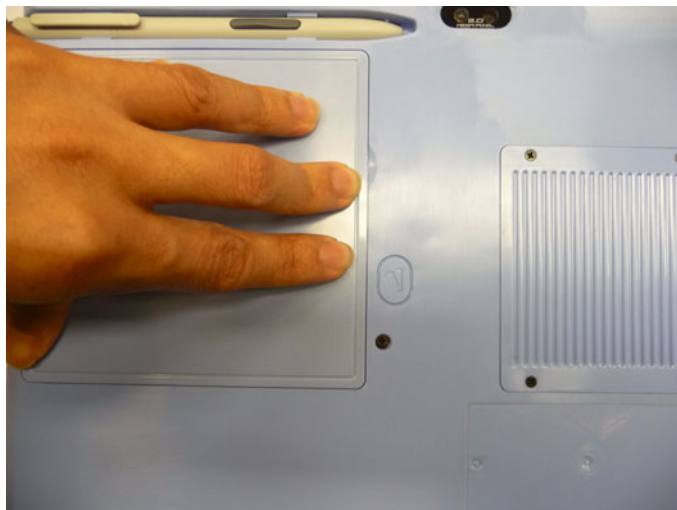

Figure 2.11 Push Battery Back into Slot
4. Install the battery pack into the slot until you hear a click sound (Figure 2.11) (please put the battery back in within 3 minutes if using the P1 function key).